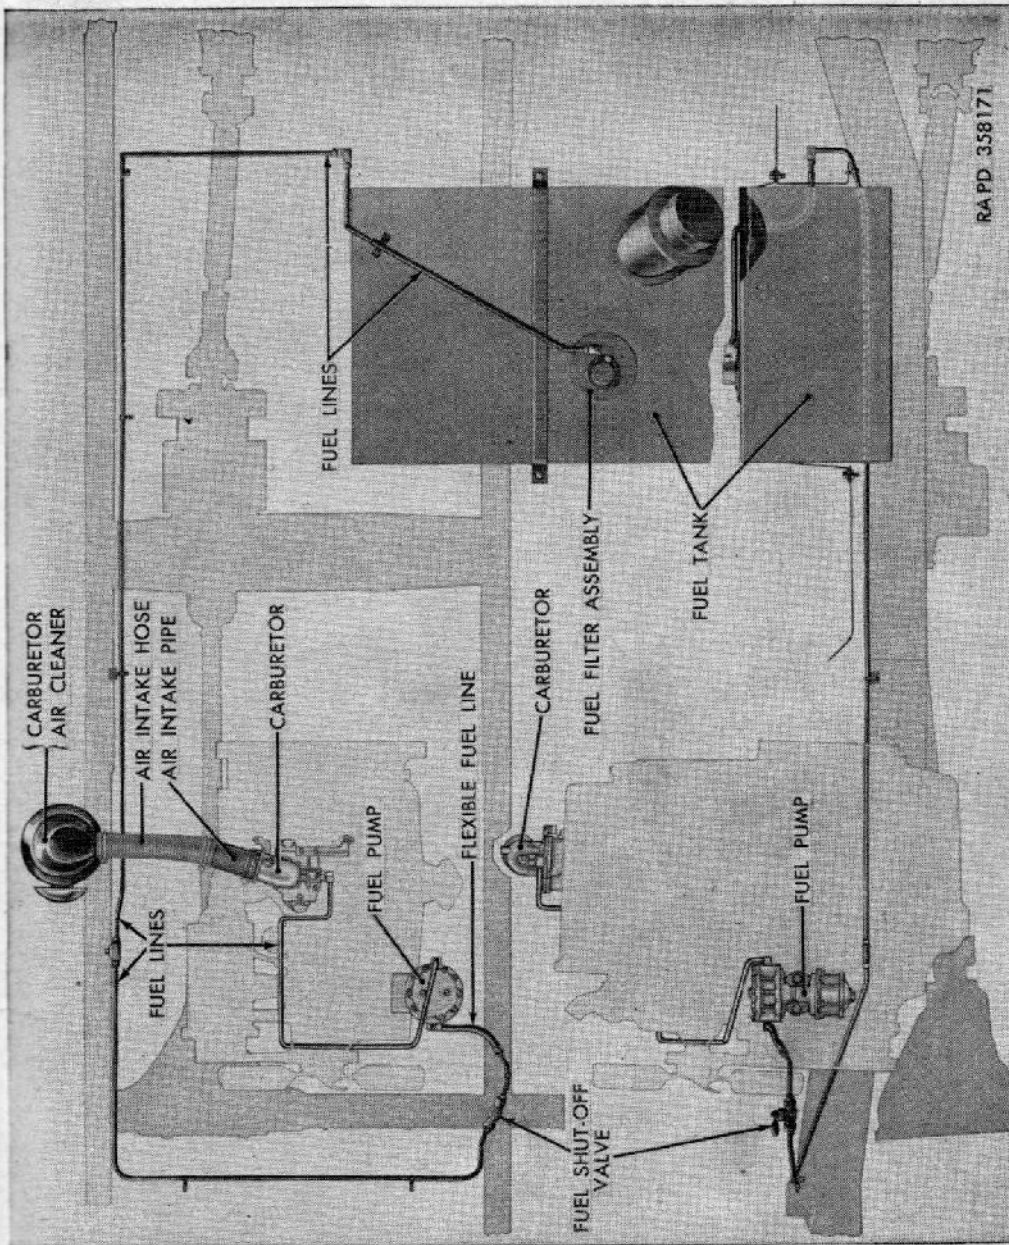

Figure 44. Fuel and air intake system.
- (1) *General.* Units which comprise the fuel and air intake system (fig. 44) include carburetor, carburetor controls, carburetor air cleaner, fuel tank, fuel pump, fuel filter, fuel gage, fuel gage sending unit and connecting fuel lines, and electric cables which connect these various components.
slowly. Installed in the fuel tank are the fuel gage sending unit and the fuel filter. Fuel lines connect the fuel tank to the fuel pump and other components of the fuel system. A fuel shut-off valve (fig. 44) is incorporated in the main fuel line to shut off the supply of fuel from the fuel tank to the fuel pump.
- (1) Turn off fuel shut-off valve (fig. 44). Disconnect flexible fuel line, fuel outlet line, and fuel pump vacuum booster line from fuel pump. Disconnect windshield wiper vacuum line from the bottom part of fuel pump.
- (2) Remove mounting cap screws, fuel pump, and fuel pump gasket from cylinder block. In some cases, a spacer will be found between the fuel pump and cylinder block to regulate spacing of fuel pump operating lever and camshaft. Remove spacer and gasket.
- (2) Connect flexible fuel line, fuel pump vacuum booster line, and windshield wiper vacuum line on fittings on fuel pump. Turn on fuel shut-off valve (fig. 44).
- (3) Start engine and inspect fuel pump and connections for leaks.